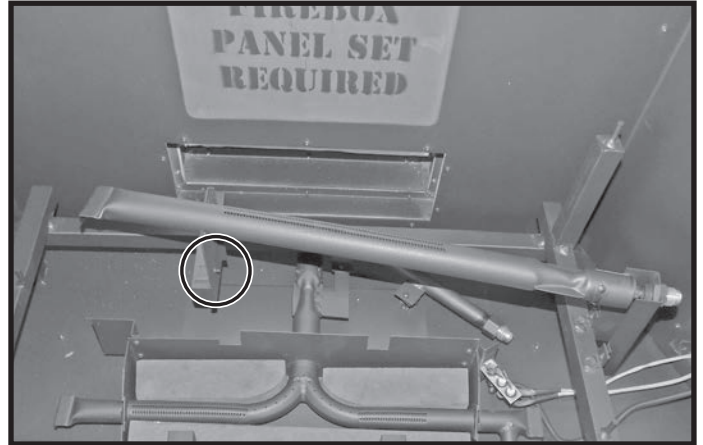

Figure 37: Upper burner securing screw location.
5. Remove the securing screw which attaches the upper burner to the log grate and remove burner tube (Figure 37).